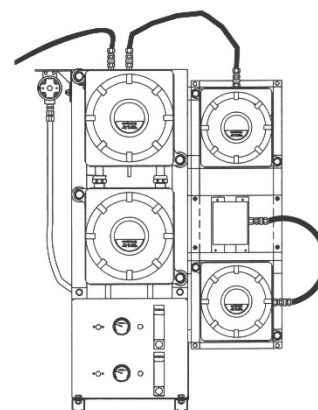

Figure 3: Drawing of the alternative front entry layout
- iii. The optional alternative front entry layout of the enclosures was introduced, as detailed in Figure 3.